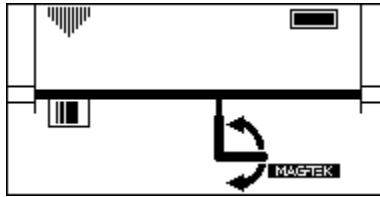

Figure 5-3. CET Rotation
5. Rotate the tool 90° *downward* as indicated in Figure 5-3